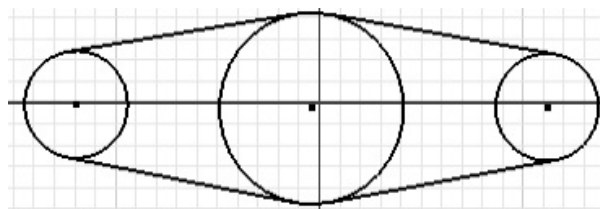

Figure 4-90 Sketch after drawing and adding constraints
4. Draw the sketch, which is a combination of three circles and tangent lines. Add the **Tangent** constraint to the lines wherever it is missing. Also, add the **Equal** constraint to all four lines, and the circles on the left and right sides. Finally, add the **Horizontal** constraint to the centers of the circles. The sketch, after drawing and adding constraints, should look similar to the one shown in Figure 4-90.